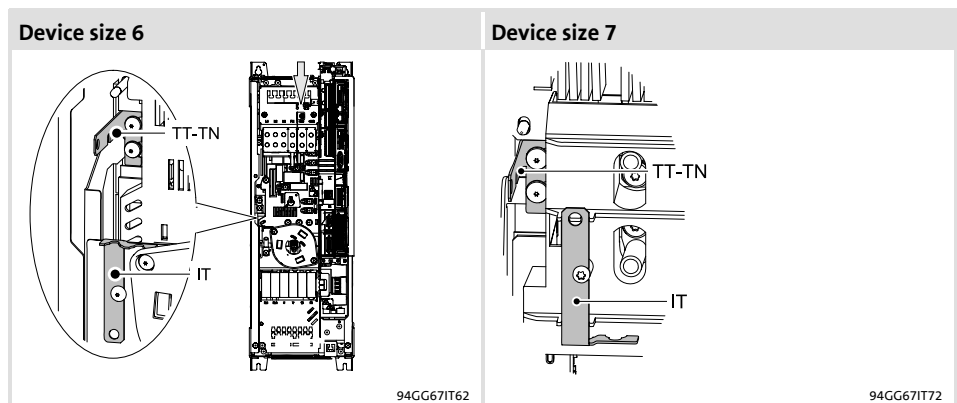

Fig. 4.6-6
3. Find the metal strap on the left of the device (📖 Fig. 4.6-6).